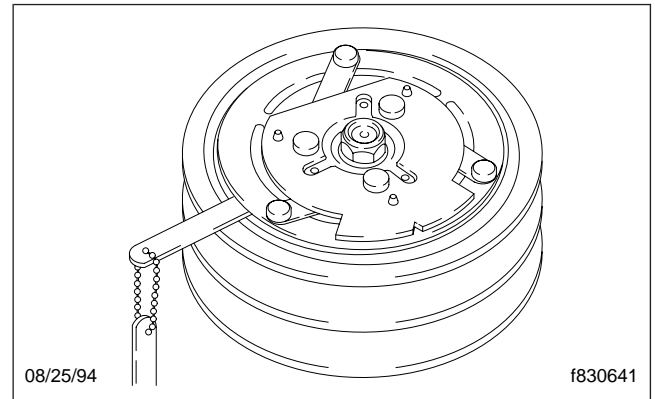

Fig. 1, Drive Plate Clearance Inspection
4. On a Sanden refrigerant compressor, use a feeler gauge to check that the drive plate clutch clearance is 0.016 to 0.03 inch (0.4 to 0.8 mm). See **Fig. 1**. If the drive plate clutch requires adjustment, see **Group 83** of the *Heavy-Duty Trucks Service Manual*.